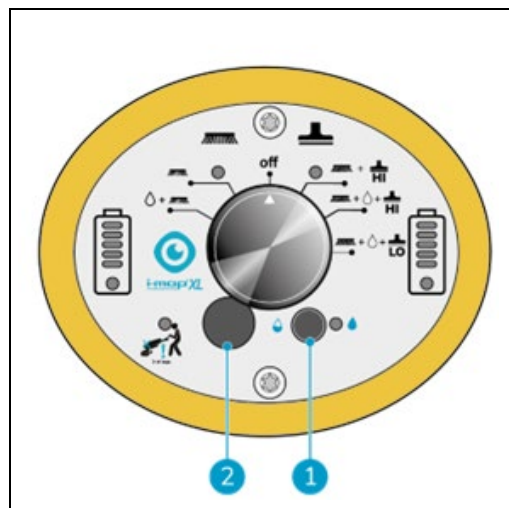

Figure 26
1. Turn on the ECO mode by pushing the ECO button after you have selected your cleaning mode (Figure 26, pos. 1).
3. To adjust water flow when ECO mode is activated, you can remove the rubber cap (Figure 26, pos 2) and use a small flathead screwdriver to change the flowrate on the dial below the cap. See flowrate Table 1 below.